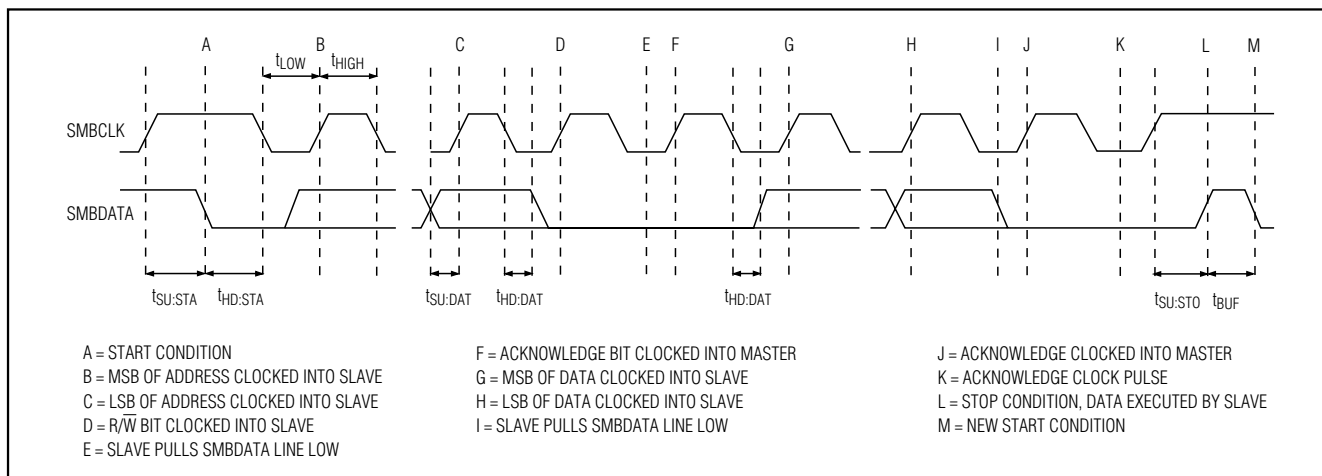

Figure 15. SMBus Write Timing
Communication starts with the master signaling the beginning of a transmission with a START condition, which is a high-to-low transition on CRF/SDA, while CTL/SCL is high. When the master has finished communicating with the slave, the master issues a STOP condition (P), which is low-to-high transition on CRF/SDA, while CTL/SCL is high. The bus is then free for another transmission. Figures 15 and 16 show the timing diagram for signals on the 2-wire interface. The address-byte, command-byte, and data-byte are transmitted between the START and STOP conditions. The CRF/SDA state is allowed to change only while